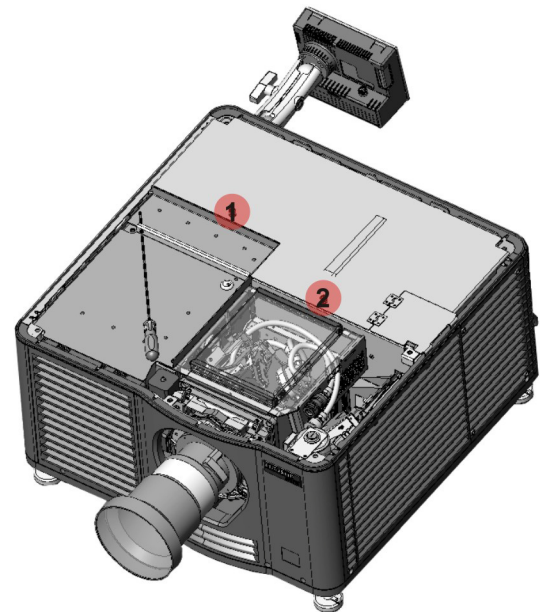

Figure 5-12 Safety Shield
3. Loosen the two captive screws (**Figure 5-12**).